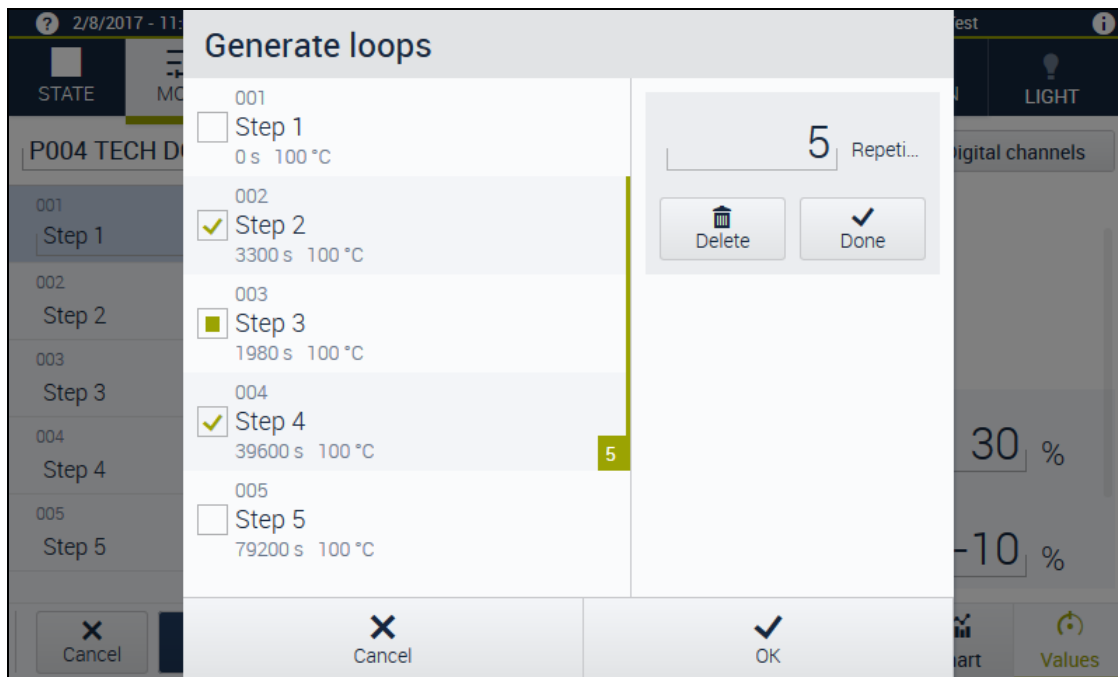

Fig. 6-2 Generate loops
- ✓ The **Generate loops** dialog opens → Fig. 6-2 »Generate loops« (page 78).